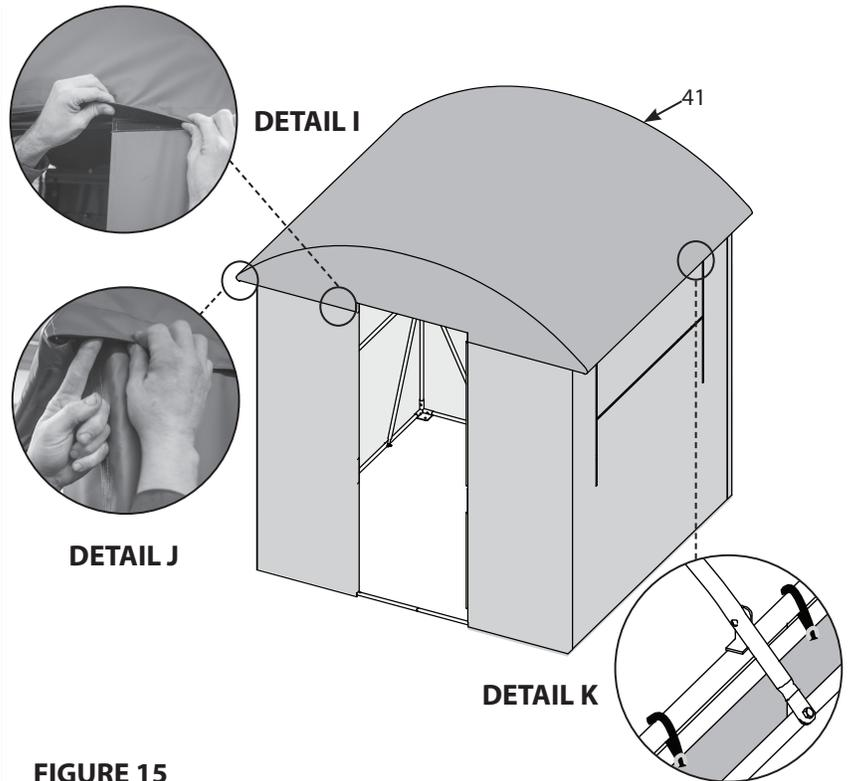

FIGURE 15
15. Drape the roof panel (41) over the assembled roof frame. Secure the hook and loop attachment strips on the front and the back of the roof panel to the strips on the front and back wall panels and top tier of blind frame. Adjust and redo as necessary to take out as much slack in the fabric as possible. **SEE FIGURE 15 and DETAIL I.**
Wrap the corners of the roof panel around the corners of the frame assembly and secure hook strip to loop. **SEE FIGURE 15 and DETAIL J.**
Pull the roof panel tight by wrapping D-ring straps around top tier of blind frame poles (4, 5). Feed the long strap through both D-rings and back through to tighten. **SEE FIGURE 15 and DETAIL K.**